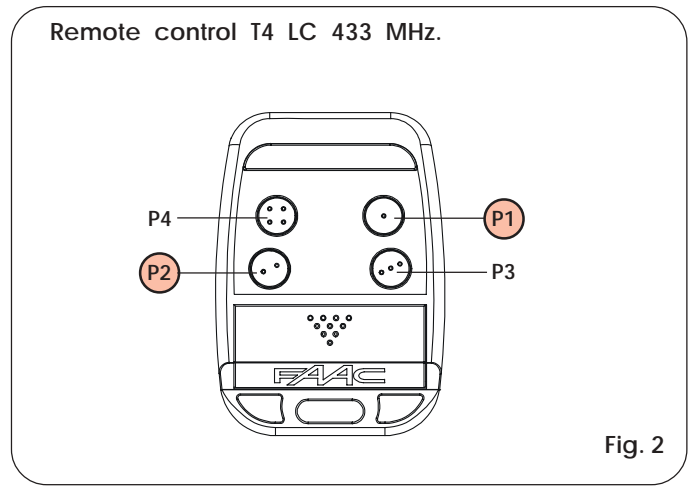

Fig. 2
- 1) Press push-buttons P1 and P2 of the remote-control (Fig.2) and always hold them down.